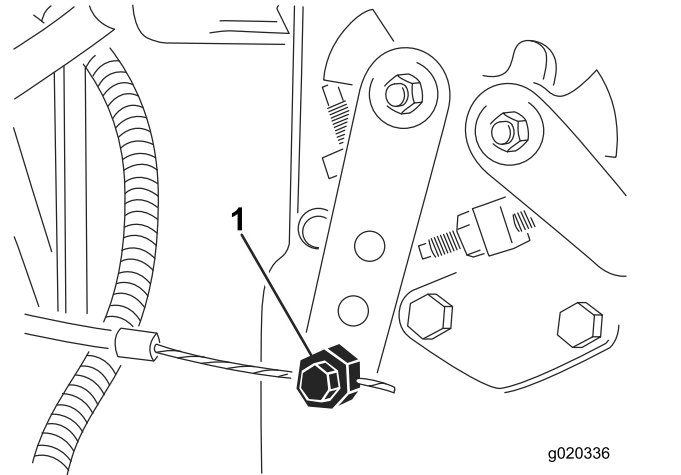

Figure 77
2. Loosen the throttle cable connector on the injection pump lever arm (Figure 77).